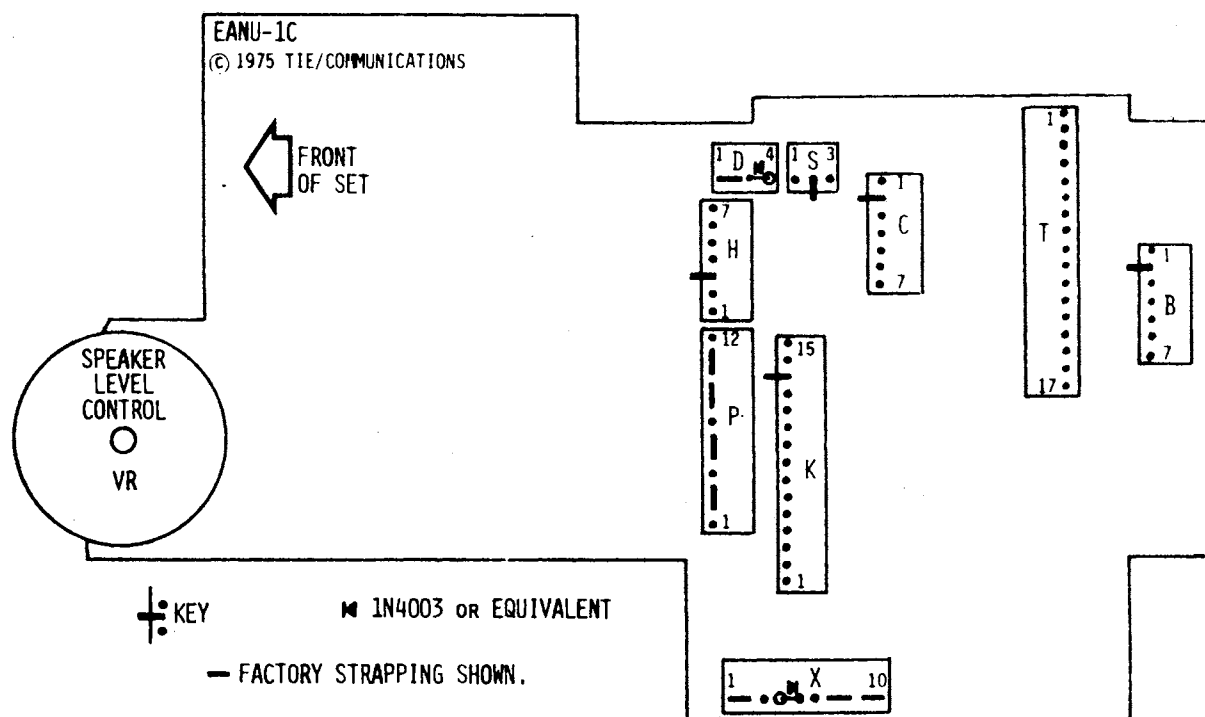

Figure 4.1 - EANU-1C Connector Layout and Pin Numbering
4.07 The E-OSC-A oscillator card is installed in the telephone in connector 'B' on the E-ANU-1C board. The card is plugged-in with the component side toward the rear of the set. The connector is keyed for proper alignment of the card (see Figure 4.1).
4.13 Before installing the dial, strap the 'D' connector (see Figure 4.1) on the EANU-1C, if required. This connector is strapped at the factory for rotary dial use. Remove the shorting clip from pins 1-2 when TIE-TONE dials are used. The diode strap in position 3-4 may be used to provide dial restriction (see paragraph 4.31).
- b) Remove the shorting clips from connector 'X' (see Figure 4.1) that were installed at the factory.
4.24 If an exclusion unit (E-EXU-D) is to be removed from an E-100-C telephone set, connector 'X' must be re-strapped. Refer to Figure 4.1 for the required strapping.